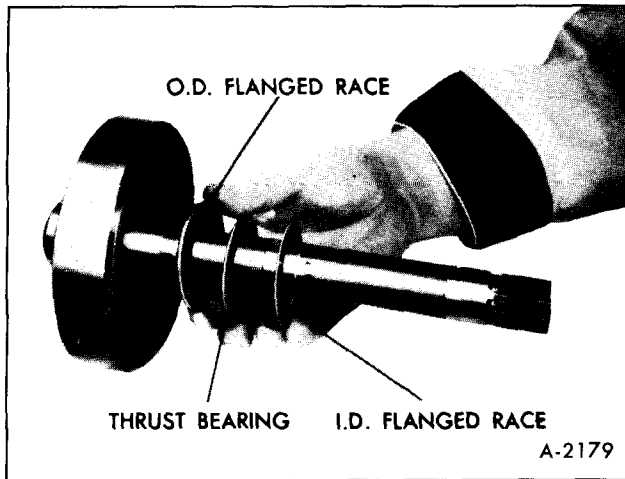

Figure 62-Thrust Bearing Installation
a. Install large diameter race first, with flange facing up, Figure 62.